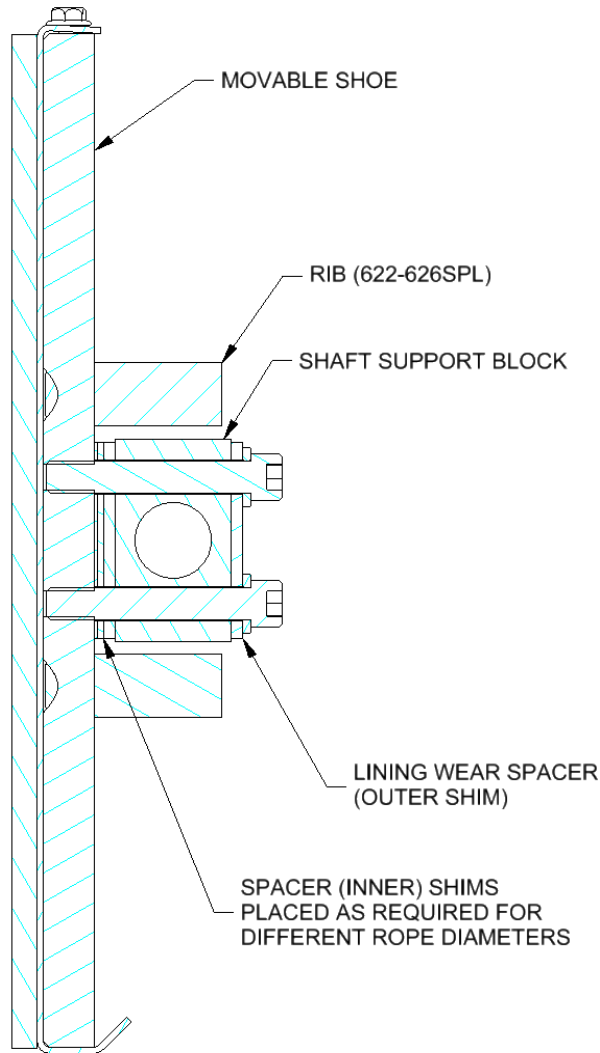

FIGURE 10
9. If time to wear-in seems excessive and the lining wear-in is not completed after the grooves in the linings have reached between 1/32” to 1/16” deep, spacer shims (**Figure 10**) can be moved from between the shaft support blocks and moveable shoe to the outside of the support block to allow the rotating shaft to completely turn the corner and move up the cam. Refer to **Chart 3** for initial spacer and shim set-up. **Note: Before changing spacers, install security set screws to prevent unintended “ROPE GRIPPER®” activation, which could lead to severe personal injury and/or damage to the unit.**
- If lining wear is not excessive (less than 3/16”), the 1/8” Lining Wear Spacer Shims (**Figure 10**) are to be re-located between the shaft support blocks and the moveable shoe. Remove the bolts that hold the blocks to the movable shoe and place the lining wear spacer shims under the blocks. Re-install and tighten bolts. Addition of the shim decreases the shoe clearance. The rotating shaft is now toward the bottom end of the cam when gripping the ropes.